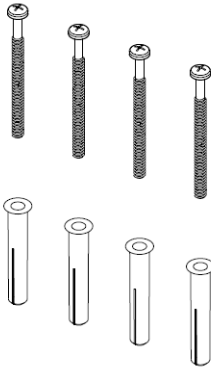

Fig. 1: Screws and wall plugs (the screws are approximately 63mm long)
- Drill a hole to accept the supplied wall plug and insert the plug. To identify the plugs and screws to use, refer to Fig. 1.